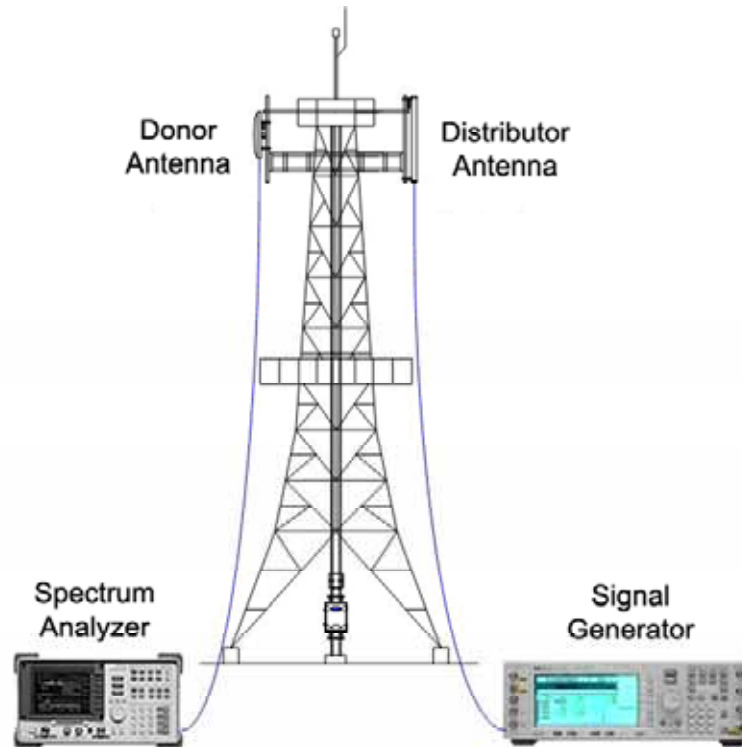

Figure 4.1 Isolation test with S/G & S/A
- a Set-up the equipment as shown in Figure 4.1 Isolation test